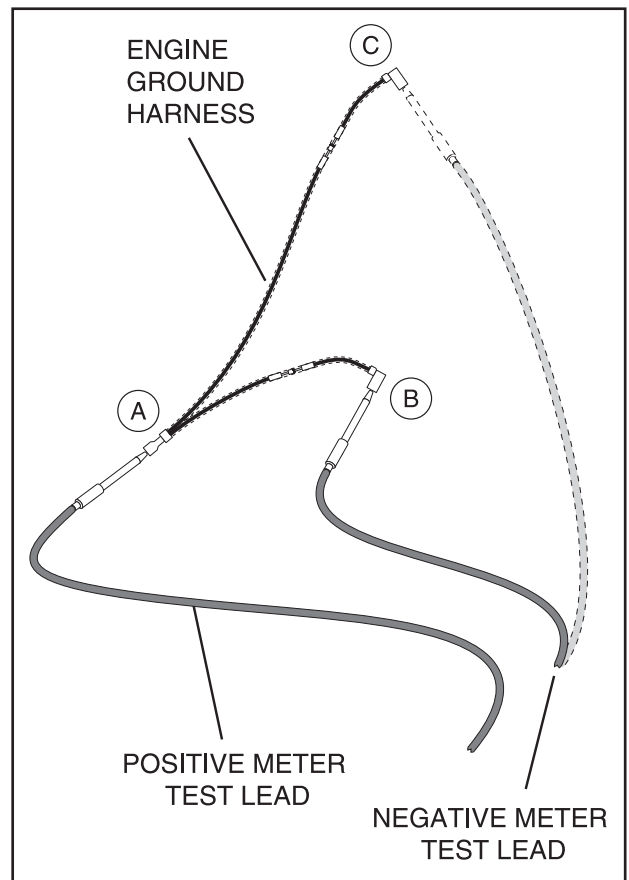

Figure 26. Engine Ground Harness Test Points
11. Connect the positive (+) test lead to Connector "A" (as shown in Figure 26). Connect the negative (-) test lead to Connector "B."
12. Now repeat Step 11 with the negative meter test lead connected to Connector "C" (Figure 26).